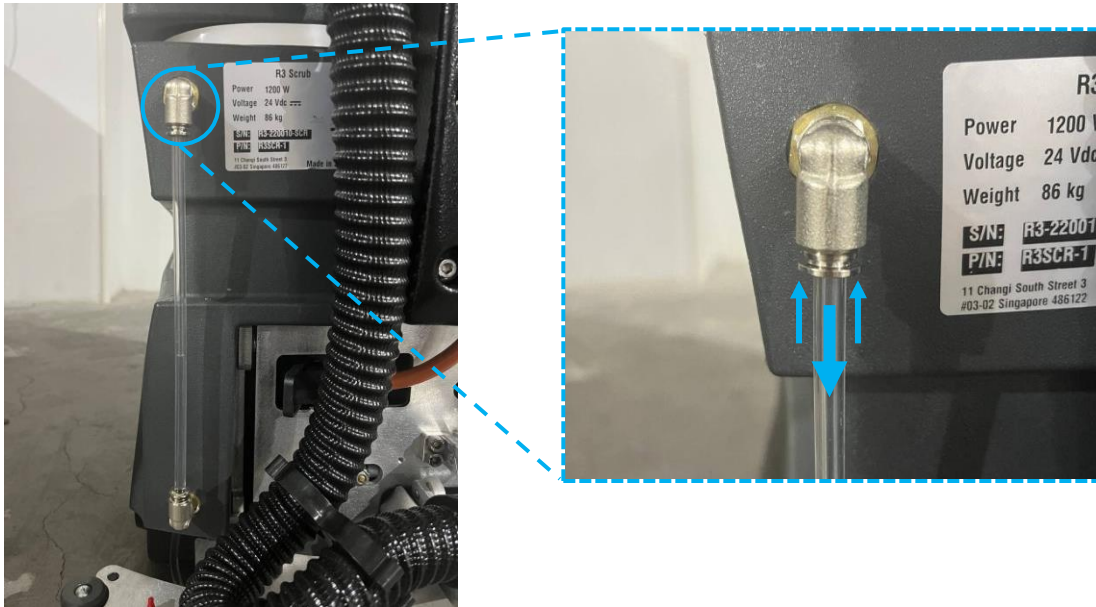

Fig. 1
1. Locate the clean water level tube on the back of the robot (Fig. 1).
2. Push the outer metal ring of the tube fitting (upwards) and pull the tube out (downwards) at the same time (Fig. 1)